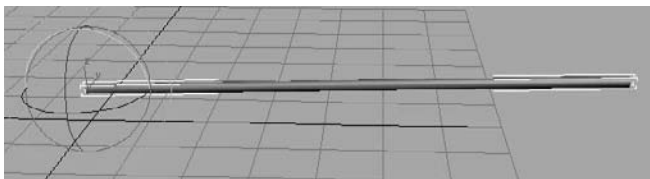

Figure 2.17
2. Clicking and dragging one of the axes will rotate the cylinder in that axis. For this step, click on the Y-axis rotate *handle*, which is the green circle, and drag the mouse to rotate the cylinder to the right of the screen as shown in Figure 2.17. The green Y-axis handle will turn yellow when you select it. (A gizmo's active axis handle is yellow.)